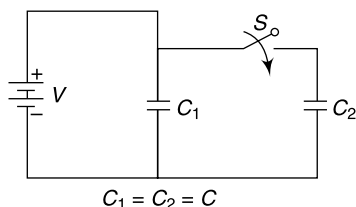

Fig. 2.62 Circuit of Ex. 2.58
2.58 In the circuit of Fig. 2.62, switch S is switched on at $t = 0$ and kept at on position for long time. At steady state, the switch is suddenly opened. Instantaneously, the dielectric mediums of the capacitors are replaced by another dielectric medium having dielectric constant of 0.5. Find the ratio of total electrostatic energy in both the capacitors before and after opening of the switch at steady state.